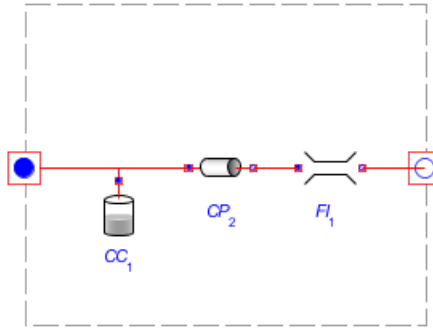

Figure 6.27: Discretized Pipeline Segment
Each subsystem consists of a compliant cylinder, a pipe, and a fluid inertia component as shown in **Figure 6.27**. A pipeline (of total length L and volume V) with N segments has $N + 1$ pipes, each with a length,
1. Build the model with the components and connections shown in **Figure 6.26** and **Figure 6.27**.